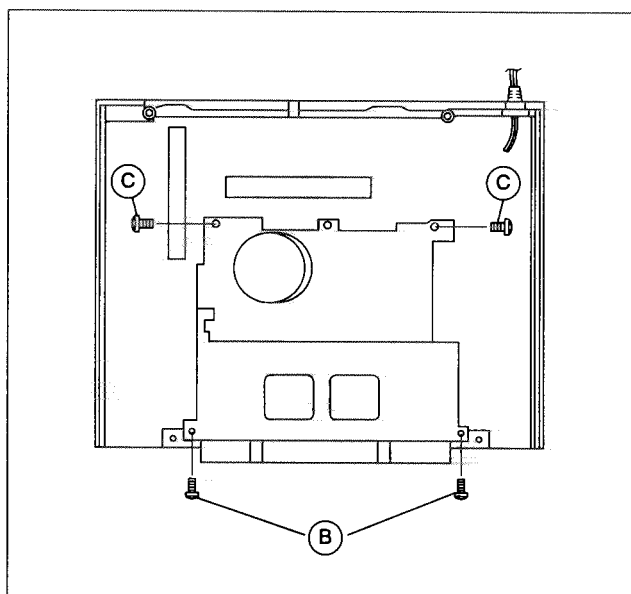

Fig. 1-5-1
- (1) Remove the Top cover and Front panel assembly.
- (2) Take out 2 screws (B) and 2 screws (C) as shown in Fig.1-5-1.